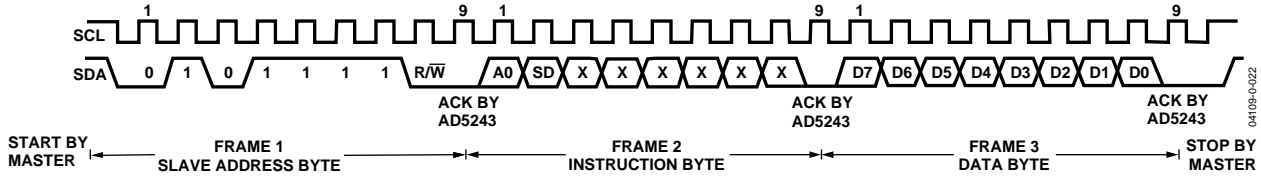
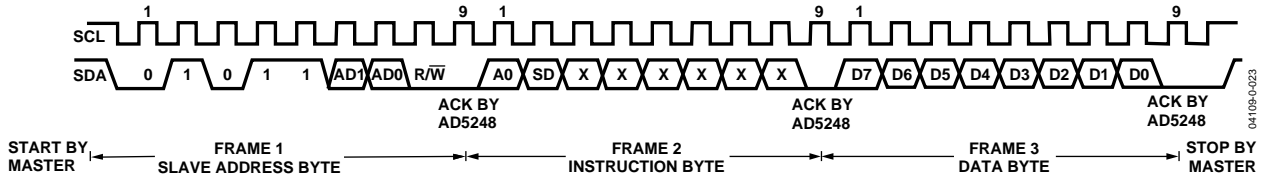

Figure 45. Writing to the RDAC Register—AD5243
Figure 46. Writing to the RDAC Register—AD5248
1. The master initiates data transfer by establishing a start condition, which is when a high-to-low transition on the SDA line occurs while SCL is high (see Figure 45). The following byte is the slave address byte, which consists of the slave address followed by an R/W bit (this bit determines whether data is read from or written to the slave device). The AD5243 has a fixed slave address byte, whereas the AD5248 has two configurable address bits, AD0 and AD1 (see Figure 10).
SDA line must occur during the low period of SCL and remain stable during the high period of SCL (see Figure 45 and Figure 46).
4. After all data bits have been read or written, a stop condition is established by the master. A stop condition is defined as a low-to-high transition on the SDA line while SCL is high. In write mode, the master pulls the SDA line high during the 10th clock pulse to establish a stop condition (see Figure 45 and Figure 46). In read mode, the master issues a no acknowledge for the ninth clock pulse (that is, the SDA line remains high). The master then brings the SDA line low before the 10th clock pulse, which goes high to establish a stop condition (see Figure 47 and Figure 48).